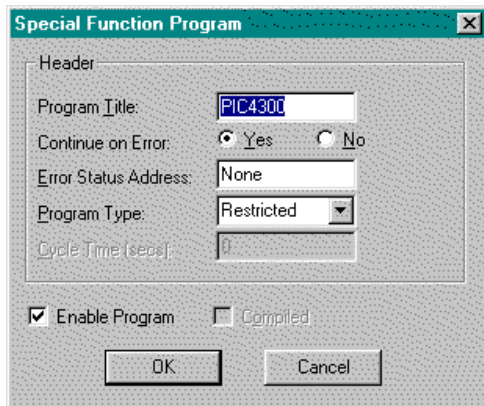

Figure 6.2
- Now Click on the Header button and the following dialog box appears (see Figure 6.2).